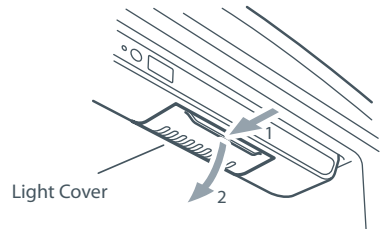

Fig 7. Removing the light cover
- 2 Remove the light cover as illustrated (Fig. 7).